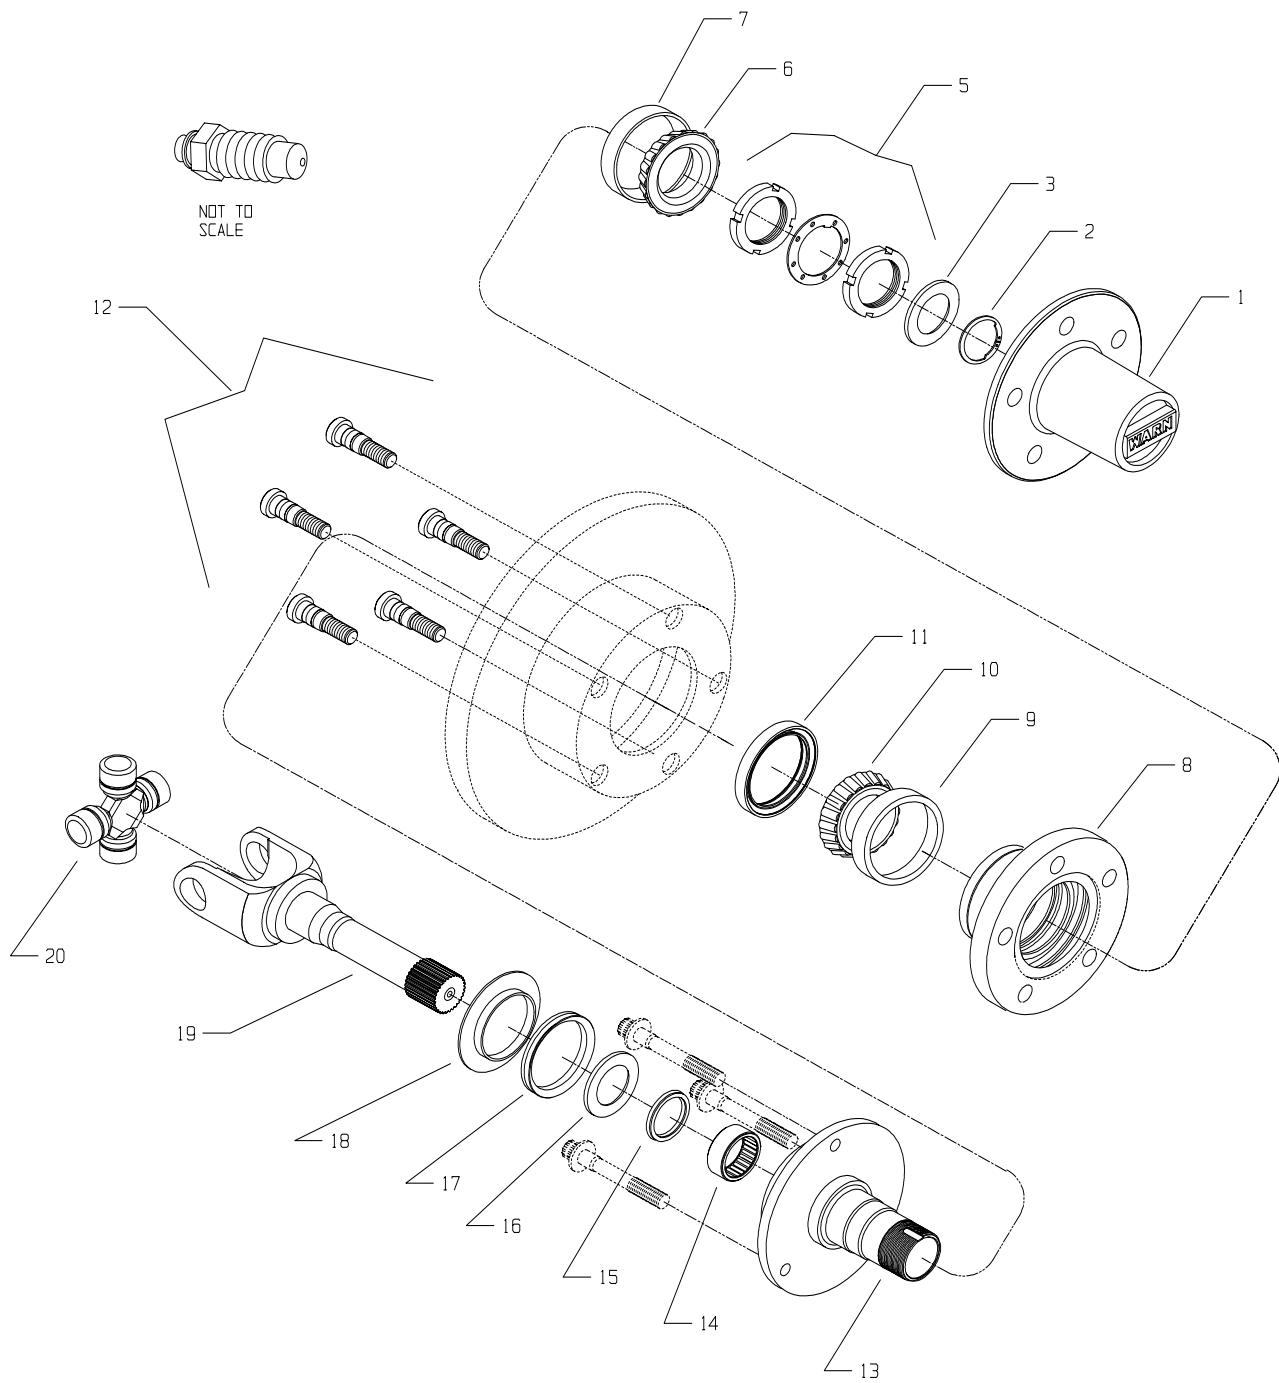

Figure 3. Front axle wheel hub conversion kit. Parts not included in kit are drawn with dashed lines
This sheet provides guidelines to install the WARN Front Wheel Hub Conversion Kit (Figure 3). There are NOTES, CAUTIONS, and WARNINGS which should be followed during installation to avoid possibility of personal injury or damage to the vehicle. During installation, standard safety precautions and equipment should be used where appropriate. Because the skill and experience of the installer and the tools used can vary widely, it is impossible to anticipate all conditions under which this installation is made or to provide cautions for all possible hazards. If your installation varies from the instruction, you must be completely satisfied that your safety or the operation of the vehicle will not be compromised.
PARTS LIST (included in kit) (Refer to Figure 3 for Item #)
13. Place thrust washer I.D. chamfer side towards Yoke. See Figure 3, Flag 16.
14. Place V-seal (thick side towards yoke) on axle shaft. See Figure 3, Flag 17.
NOTE: Put grease in counter bore. Be sure that factory installed spindle seal is placed cup side, facing away from needle bearing. This seal is held in by grease only. See figure 3, Flag 15.
1. Inspect inside of wheel hub and clean if necessary. (See Figure 3, Flag 8.)
3. Thread inner nut (See Figure 3, Flag 5) on to spindle.
6. Install lock washer on spindle. Use care to align the pin in the inner nut with the hole in the washer. The washer may be flipped if the hole does not align with the pin. See Figure 3, Flag 5.
7. Thread outer nut on spindle. See Figure 3, Flag 5.
2. Install Hub assembly (See Figure 3, Flag 1) onto wheel hub aligning over wheel studs.